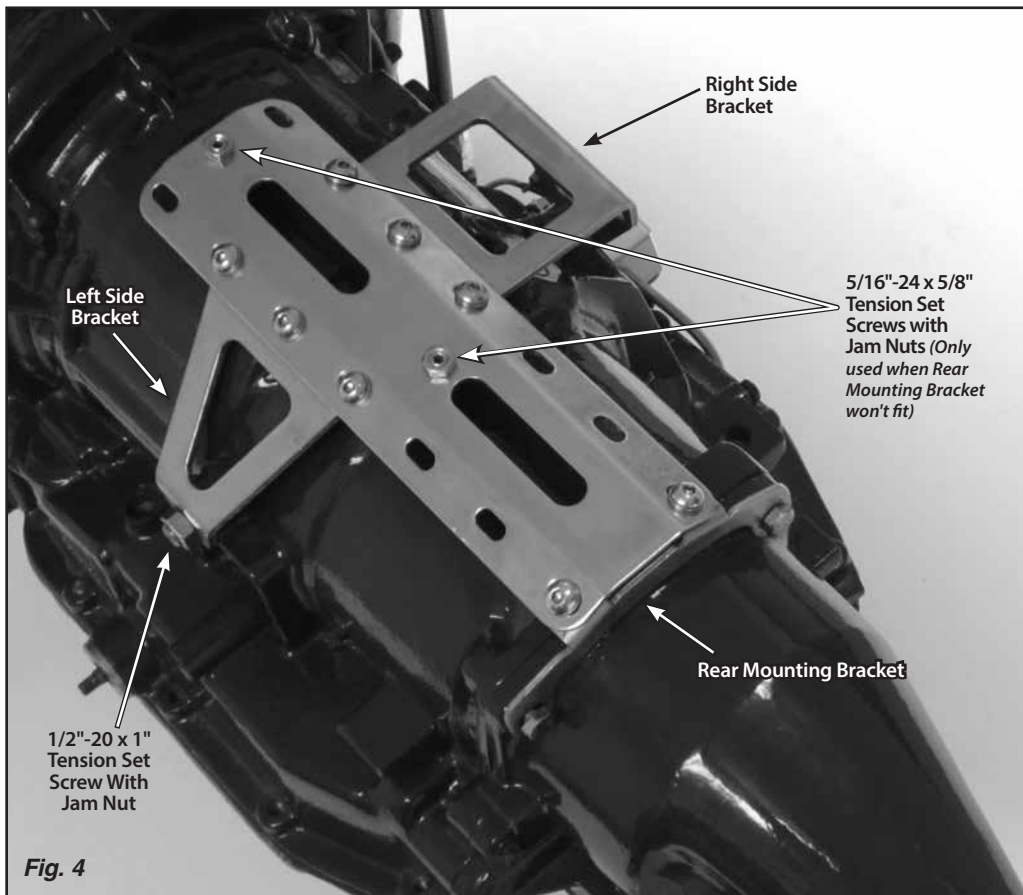

Fig. 4
**Step 5:** If you are using the rear mounting bracket, remove the top two tail housing bolts from the transmission. Install the mounting bracket assembly onto the transmission using the two original bolts through the rear mounting bracket and into the transmission at the tail housing. Fig. 4 If you have a 4 wheel drive application that will not accept the rear mounting bracket, start the 5/16"-24 x 5/8" tension set screws into the tension set screw holes at the front and in the center of the shifter main plate. Set the mounting bracket assembly into place on top of the transmission. Fig. 4